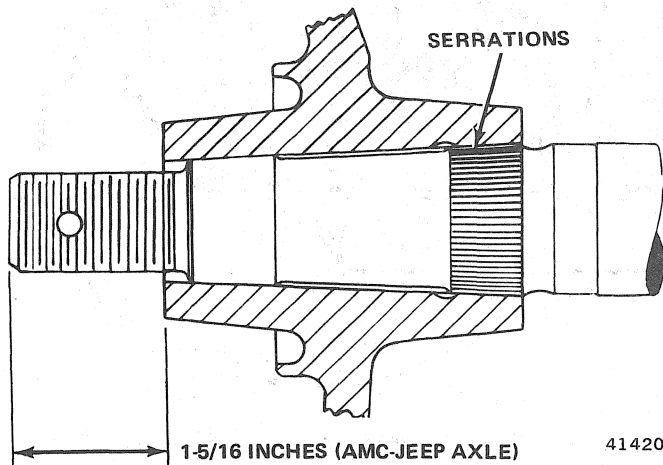

Fig. 2F-19 Replacement Hub Installation Measurement—CJ Axle
- (1) Align keyway in hub with axle shaft key.
- (2) Lubricate two thrust washers with liberal amount of chassis lubricant and install washers on axle shaft.
- (3) Install axle shaft nut.
- (4) Install brake drum, drum retaining screws, and wheel.
- (5) Lower vehicle onto wheels. Tighten axle shaft nut until distance from hub outer face to axle shaft outer end is 1-5/16 inches (33 mm) (fig. 2F-19).